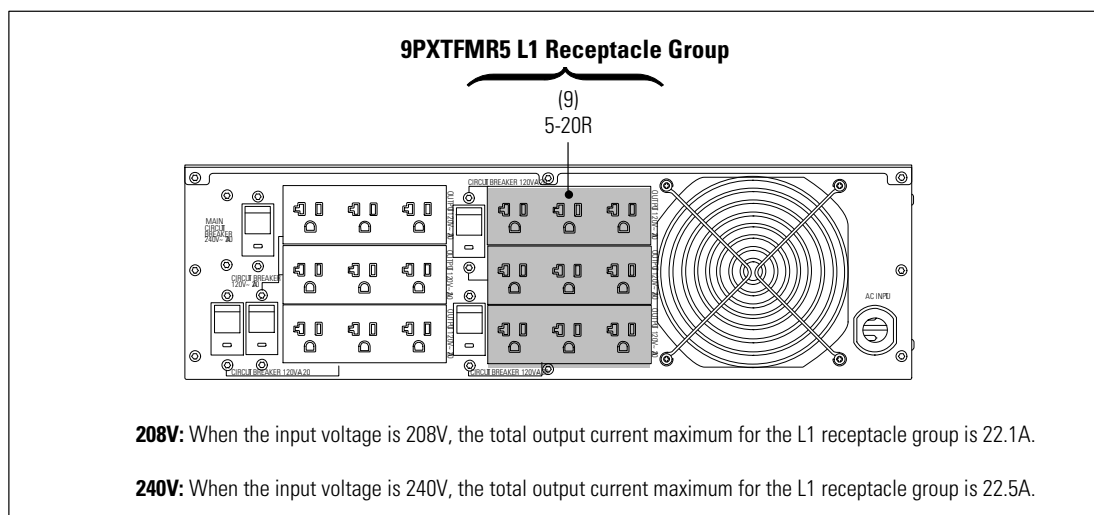
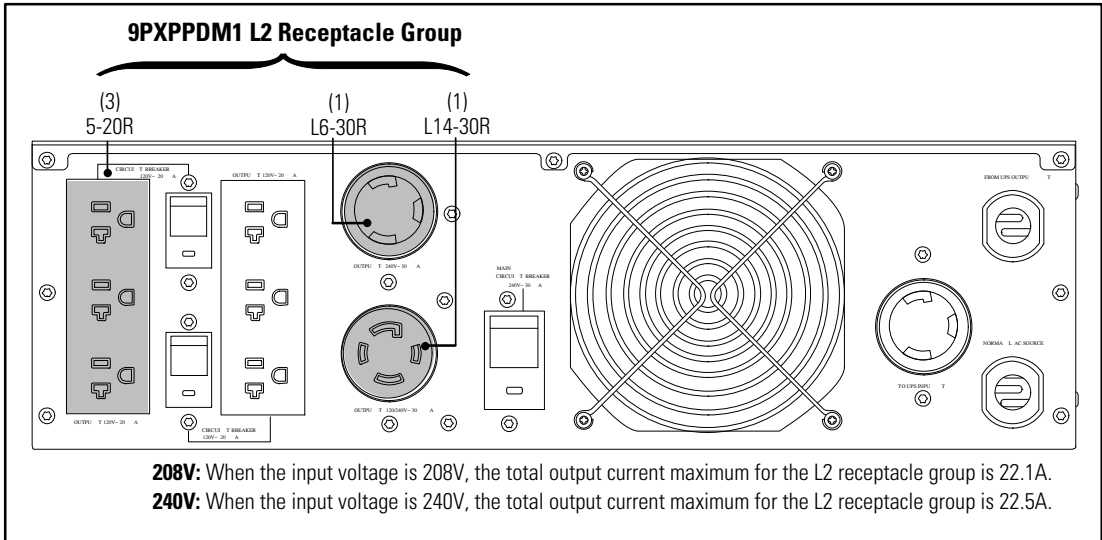

Figure 23. 9PXTFMR5 L1 Load Output Limits
Figure 28. 9PXPPDM1 L2 Load Output Limits
1. **9PXTFMR5, 9PXTFMR11 (plug-receptacle/terminal-block wired option), and 9PXPPDM1 models only.** Plug the L1 or L2 connections for the equipment to be protected into the appropriate L1 or L2 receptacle group as illustrated in Figure 23 through Figure 28.